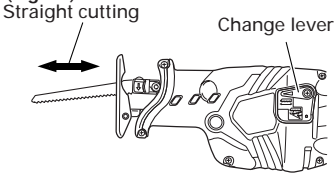
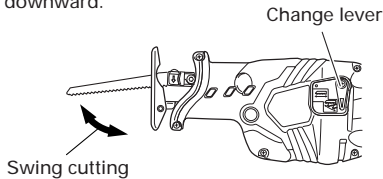

Fig. 15
Fig. 16
Two cutting systems can be selected with this unit. The first is straight cutting, in which the saw blade is moved linearly, and the second is the swing cutting, in which the saw blade is swung like a pendulum. (Fig. 15, Fig. 16)
You can perform straight cutting by setting the change lever widthwise. Straight cutting should normally be performed when cutting hard materials such as metal, etc. (Fig. 15)
Swing cutting is efficient since the saw blade forcibly bites into the material. (Fig. 16)
- (3) Use the dial to adjust the speed of the saw blade to suit your working conditions and materials.
- (4) You can cut smoothly if you set the change lever position to straight cutting (Fig. 15).
- (2) You can cut efficiently if the speed of the saw blade is set to dial scale "5".
- (3) You can cut efficiently if the change lever position is set to swing cutting (Fig. 16). Alternatively, you can cut cleanly if the change lever position is set to straight cutting (Fig. 15).